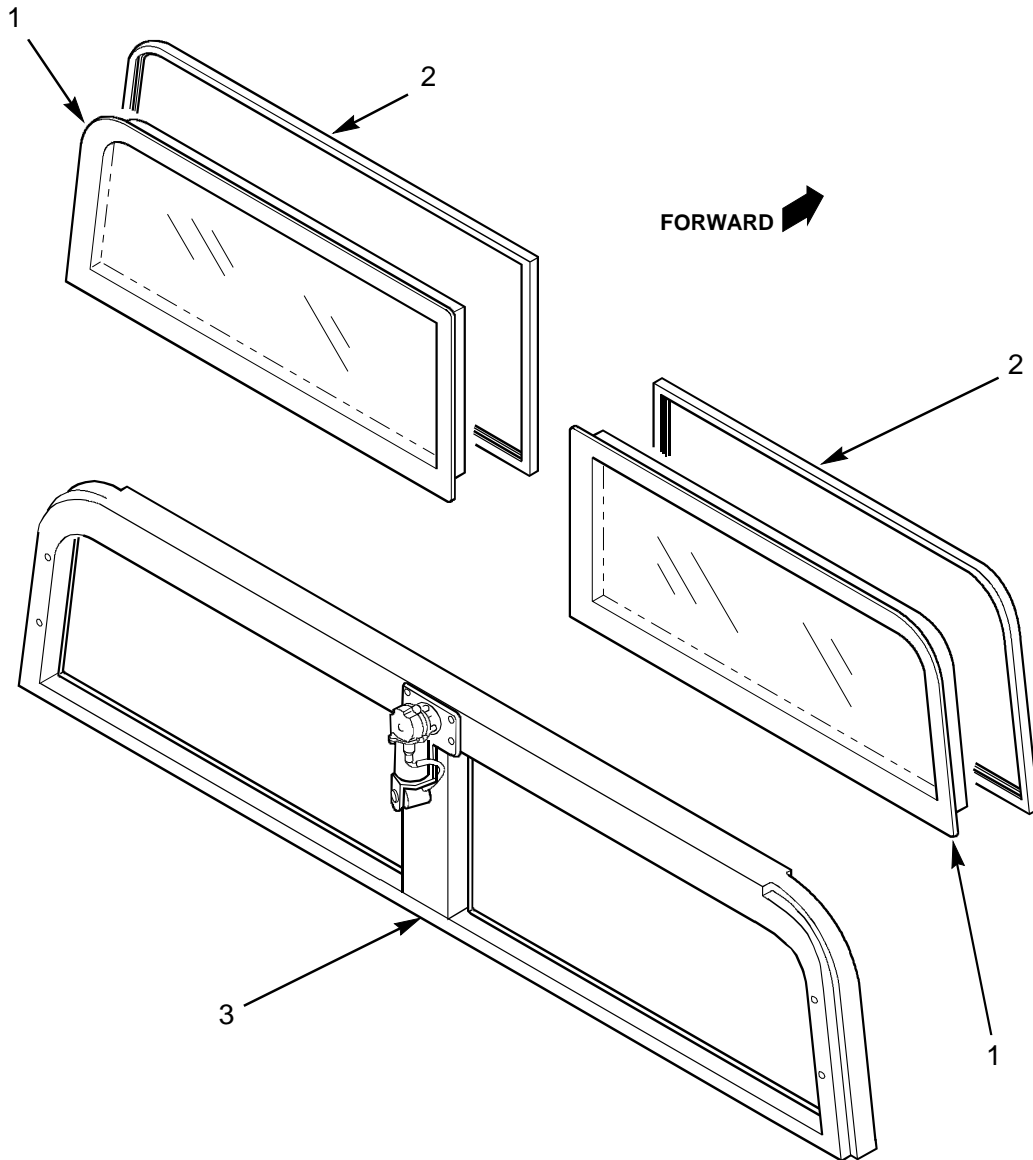

Figure 2-2. Windshield Glass Removal (2 and 4 Door)
2. Remove windshield glass (see figure 2-2).
- a. Remove gasket (2) and windshield glass (1) from windshield frame (3).